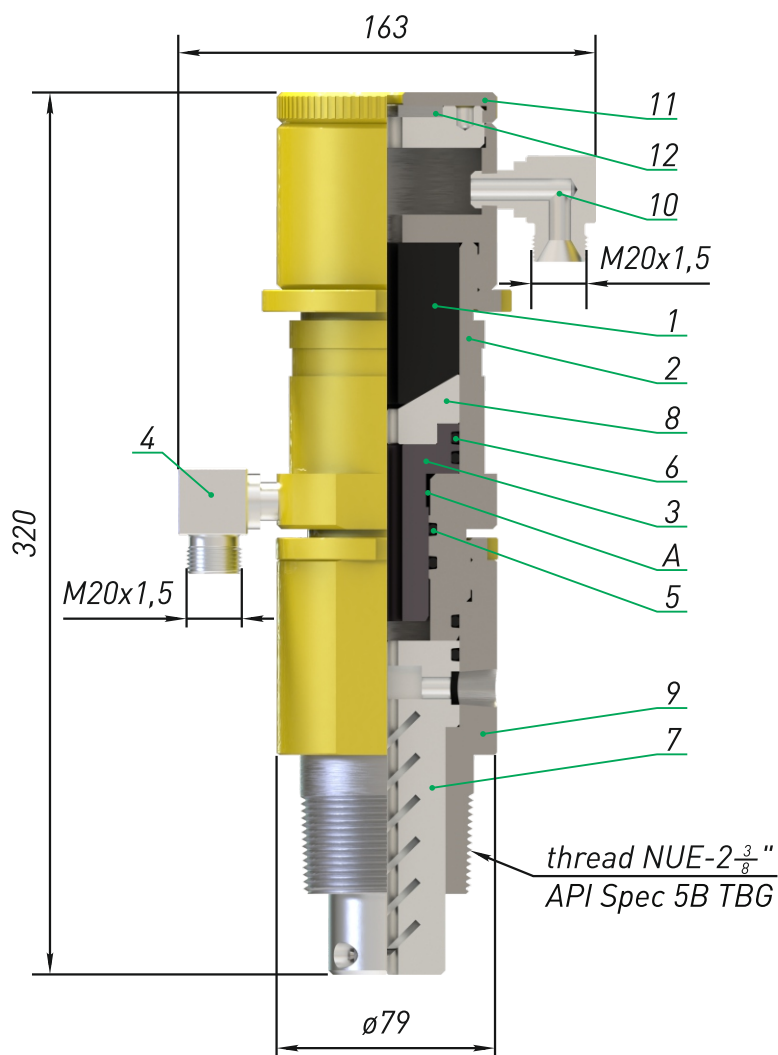

fig. 3
Sealer head (fig. 3) is designed to seal internal flow path of drilling pipes. The seal is achieved by compressing the sealer (pos.1), located in the case (pos.2), under the action of the piston (pos.3) through the distance sleeve (pos.8), the piston is driven by the hydraulic fluid supplied from the hydro station. The hydraulic liquid enters the cavity «A» through the nozzle (pos.4). O-rings (pos.5 and pos.6) prevent leakage of hydraulic fluid. Additional sealing is provided by a gap seal on the flow tube (pos.7). If the solution leaks, it is drained through the fitting (pos.10). To prevent splashing of the seeping solution through the unevenness of the conducting rope, a replaceable sealing washer (pos.12) is provided, fixed with a nut (pos.11). Parts 1, 8, 12, 7 are made of two halves to facilitate installation.